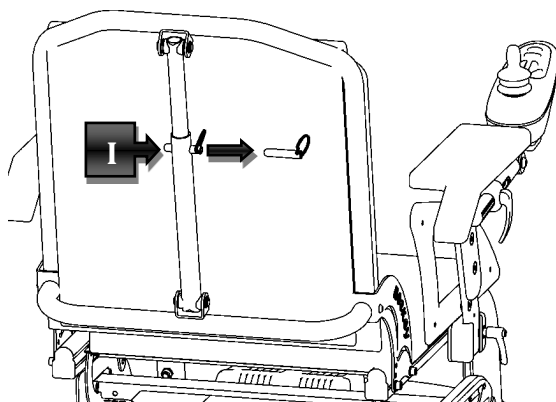
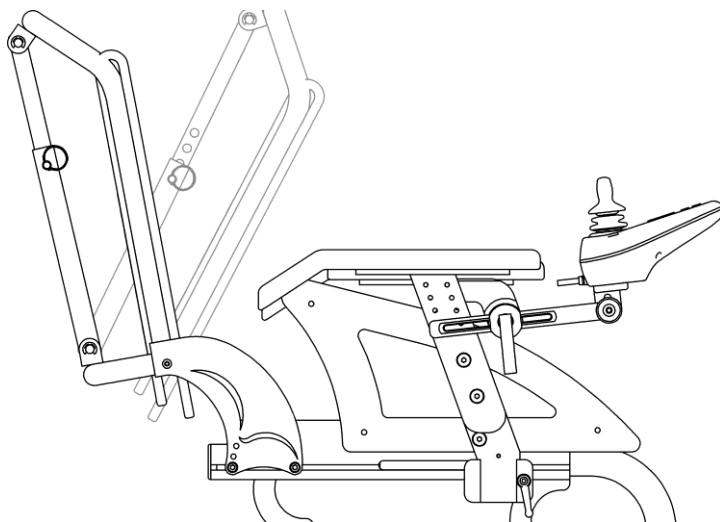

Figure 12
Figure 13
To adjust the backrest angle it is necessary to remove the insert (I) and replace it once you get the desired angle as shown in Figure 12 Figure 13.